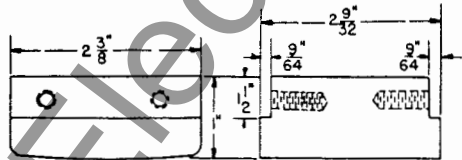

FIG. 11. Either Stationary or Movable Arcing Contact, Early Design
3. Definitely ascertain that the contacts ordered correspond to those which are to be replaced by comparing with Figs. 11 to 13 inclusive.